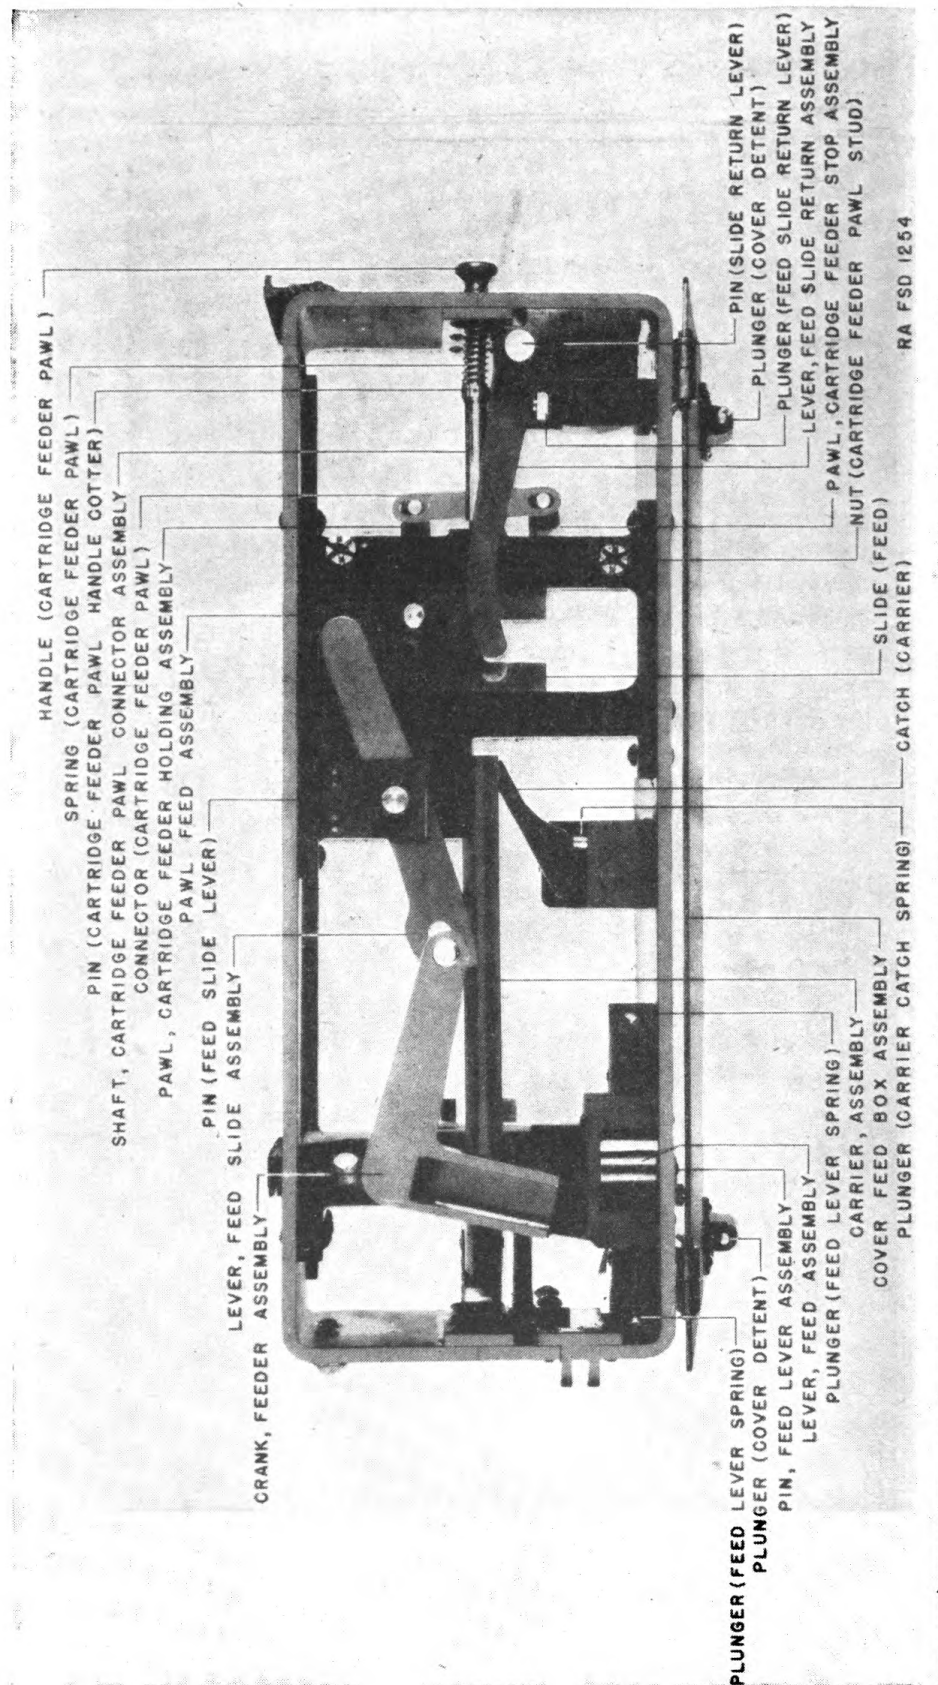

FIGURE 24.—Feed box.
Q. Point out the parts shown in figure 24. A. See figure 24.
Q. Explain how to remove and replace the feed mechanism. A. See figure 24.